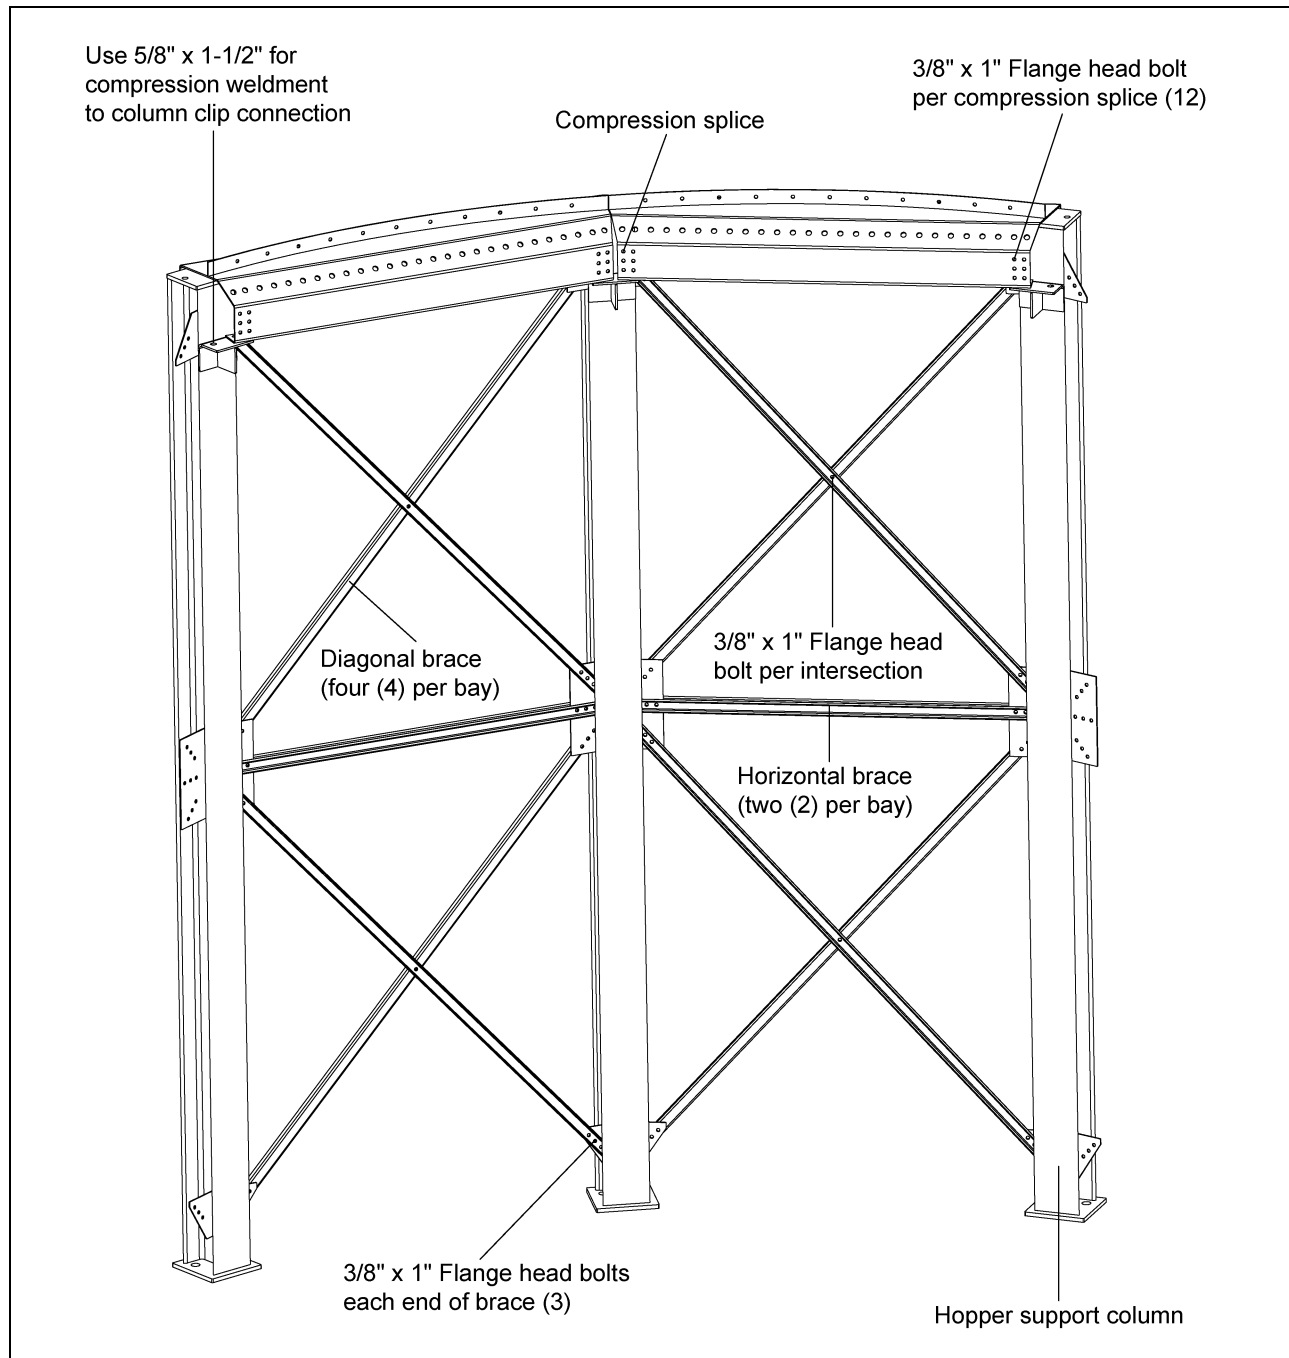

Figure 6B
Connect hopper support column bracing as depicted *in Figure 6B*. Use  $3/8"$  x  $1"$  hex flange head bolts for all bracing connections. The horizontal brace consist of two (2) formed channels placed back to back. Connect diagonal braces at their intersection with one  $3/8"$  x  $1"$  hex flange head bolt. The compression elements can be placed on the top of the column while the bracing is being installed. To ease construction pre-install a compression splice on the end of each compression element ( $3/8"$  x  $1"$  hex flange head bolts). Compression elements are connected to column supports clips with a  $5/8"$  x  $1-1/2"$  hex bolt at each end. The compression element can be connected to column top plate at this time for alignment, however this bolt will have to be removed before the tank is set on the hopper support structure. Connect adjacent compression elements with compression splices.